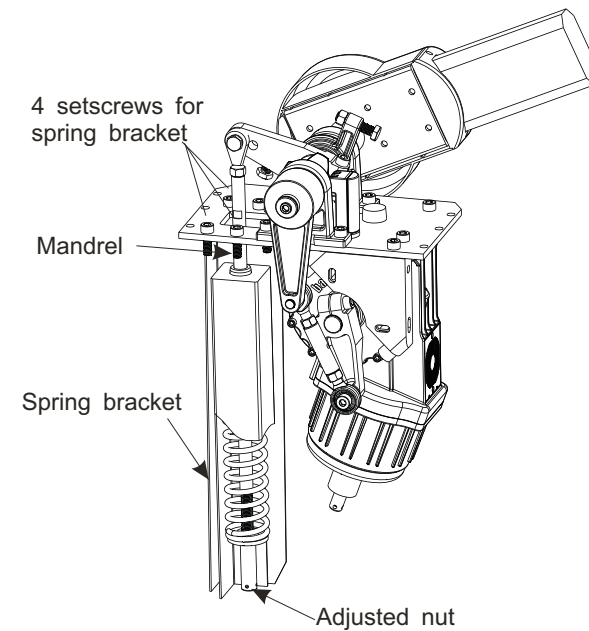

Fig. 10
- (C-d) Loosen 4 setscrews to take off the spring sleeve for changing the new spring. (Refer to Fig. 10)